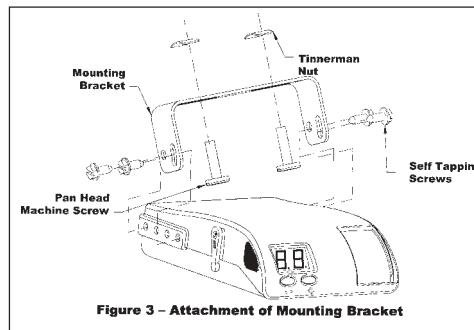

Figure 3 - Attachment of Mounting Bracket
1. Install the mounting bracket to a solid surface under the tow vehicle dash using the two machine screws and fasteners provided. Tighten until snug. **See Figure 3 - Attachment of Mounting Bracket.**